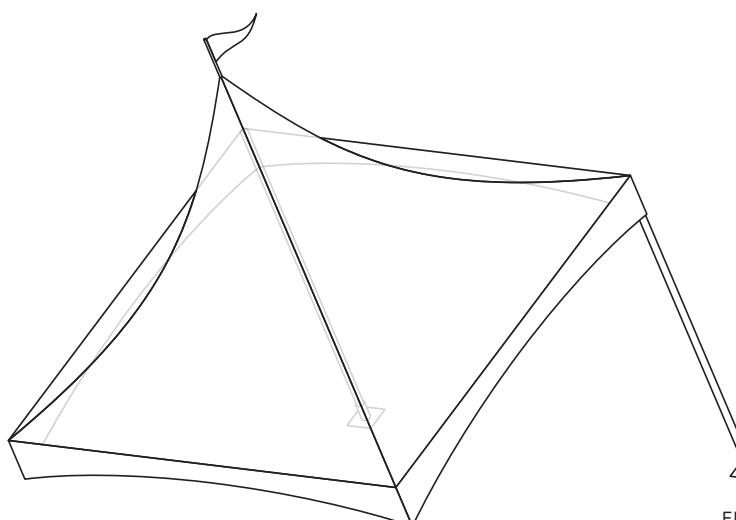
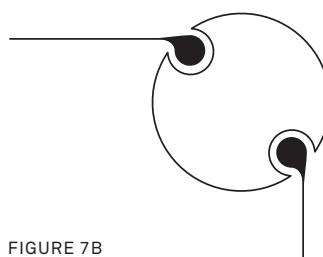

FIGURE 7A
FIGURE 7B
- Place two poles on one side beneath the frame so that the roof frame lies at an angle (see figure 7a). Ensure that the widening of the keder groove is at the top of the vertical poles and that the keder grooves are fitted at an angle of 45° in relation to the corners of the tent (figure 7b).